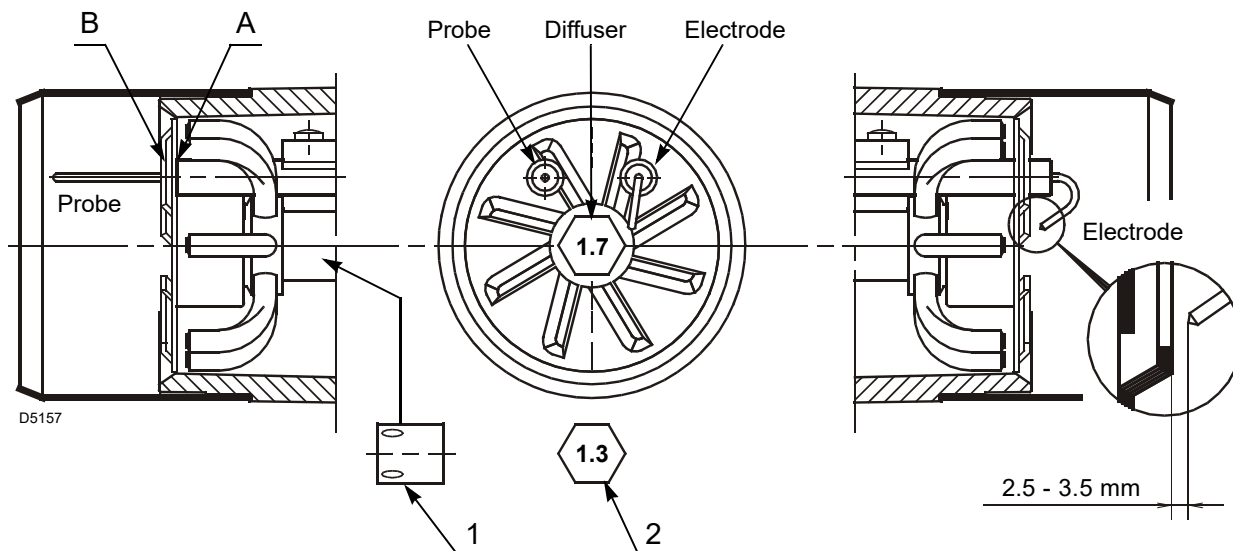

Fig. 12
Do not turn the ignition electrode but leave it as shown in Fig. 12.
Place the ceramic part of the electrode A) against the diffuser disc B)(Fig. 12).
- insert the reducing element 1)(Fig. 12);